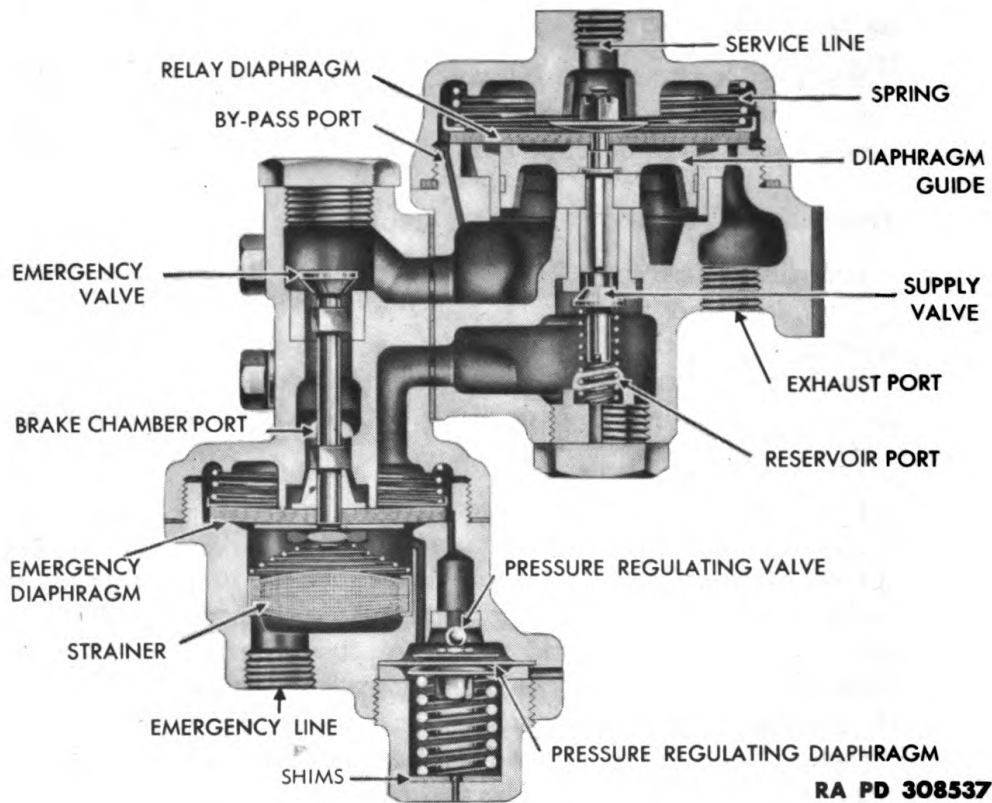

Figure 26—Relay Emergency Valve—Sectional View
33. EMERGENCY RELAY VALVE (fig. 26).
(3) **AUTOMATIC EMERGENCY APPLICATION.** With the air brake system fully charged, close the cut-out cock in the emergency air line on the tractor truck, and disconnect the emergency air hose from the semitrailer. Check to be sure the trailer brakes apply automatically. The relay emergency valve is designed to go into its emergency braking position when, for any reason, the air pressure in the emergency air line is cut off, or when the emergency air line pressure drops to a point about 20 pounds below the air pressure in the service brake system of the semitrailer. The instant the emergency line is broken or disconnected, air pressure in the brake system of the semitrailer attempts to flow out through the open emergency line. This causes the emergency diaphragm (fig. 26) to be depressed,